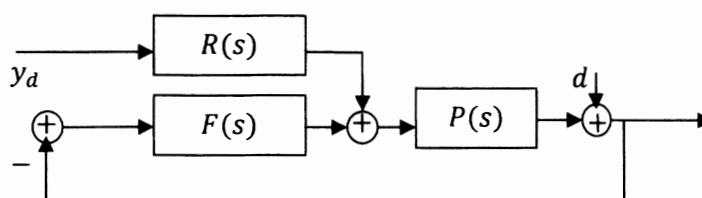

Figure 2
- 2) Design controllers  $F(s)$  and  $R(s)$  (2DOF control design) in Figure 2, with plant  $P(s) = 1/s^2$ , such that the bandwidth for disturbance rejection is 2rad/s and for reference tracking 1rad/s. (select reasonable performance for your desired transfer functions). Furthermore, we would like to have no steady-state error to step inputs at reference  $y_d$  or disturbance  $d$ .